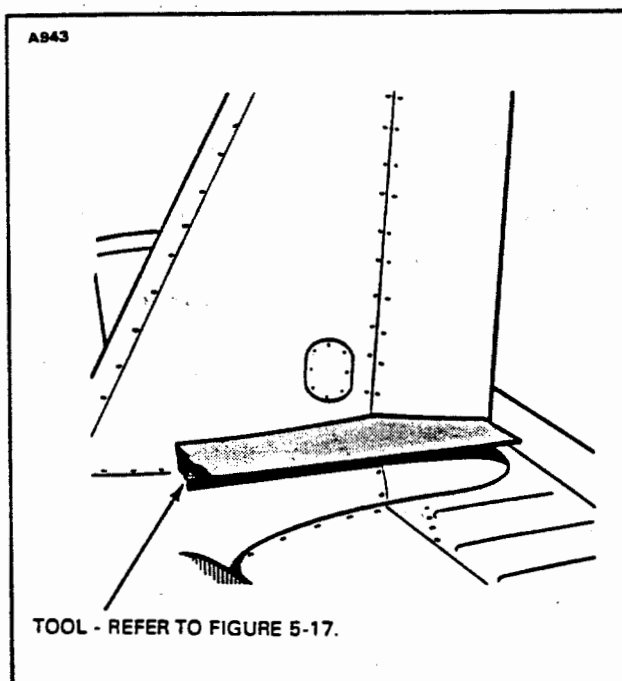

Figure 5-10. Rudder Rigging Tool
2. A rigging tool may be fabricated from dimensions given in Figure 5-17 to aid in rudder rigging. With the rudder against its stop, place the rigging tool against the side of the rudder and vertical stabilizer as shown in Figure 5-10. Ascertain that the tool is not contacting any rivets. If no gaps exist between the rigging tool and the surface's of the rudder and stabilizer the stop for that direction of travel is correct as required in Table V-I.